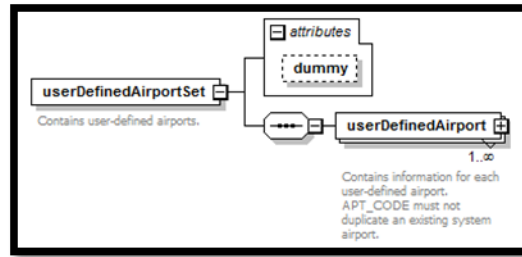

Figure 67. ASIF element – userDefinedAirportSet
10. **AsifXml/study/userDefinedAirportSet/userDefinedAirport** (Figure 67):